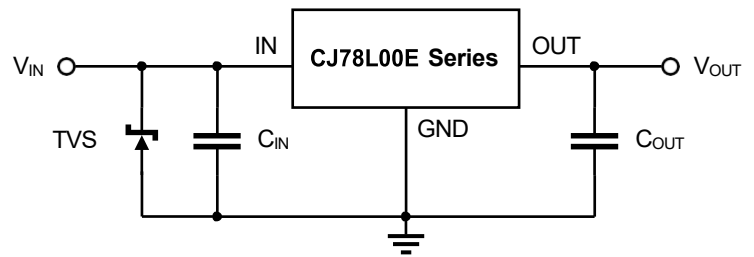

Figure 9-2. TVS is used at IN
1. Place a TVS between the IN and GND of the voltage regulator to absorb the peak voltage that may be generated due to ESD or other reasons. As shown in Figure 9-2;
For the CJ78L00E series, it is recommended that the peak voltage should not exceed 36V. When the input voltage of the operating circuit may not meet the application conditions described above, it is recommended to adopt the circuit layout shown in Figure 9-2 to 9-4 in the circuit design. During the power supply design process, the designer must inspect the application circuit to ensure that under no circumstances will the IC be damaged due to the reasons mentioned above.
It is recommended that the C_{OUT} should not exceed $20\mu\text{F}$. When the C_{OUT} exceeds $20\mu\text{F}$, it is recommended to use the circuit layout shown in Figure 9-2. See *Large Output Capacitance* for more details.